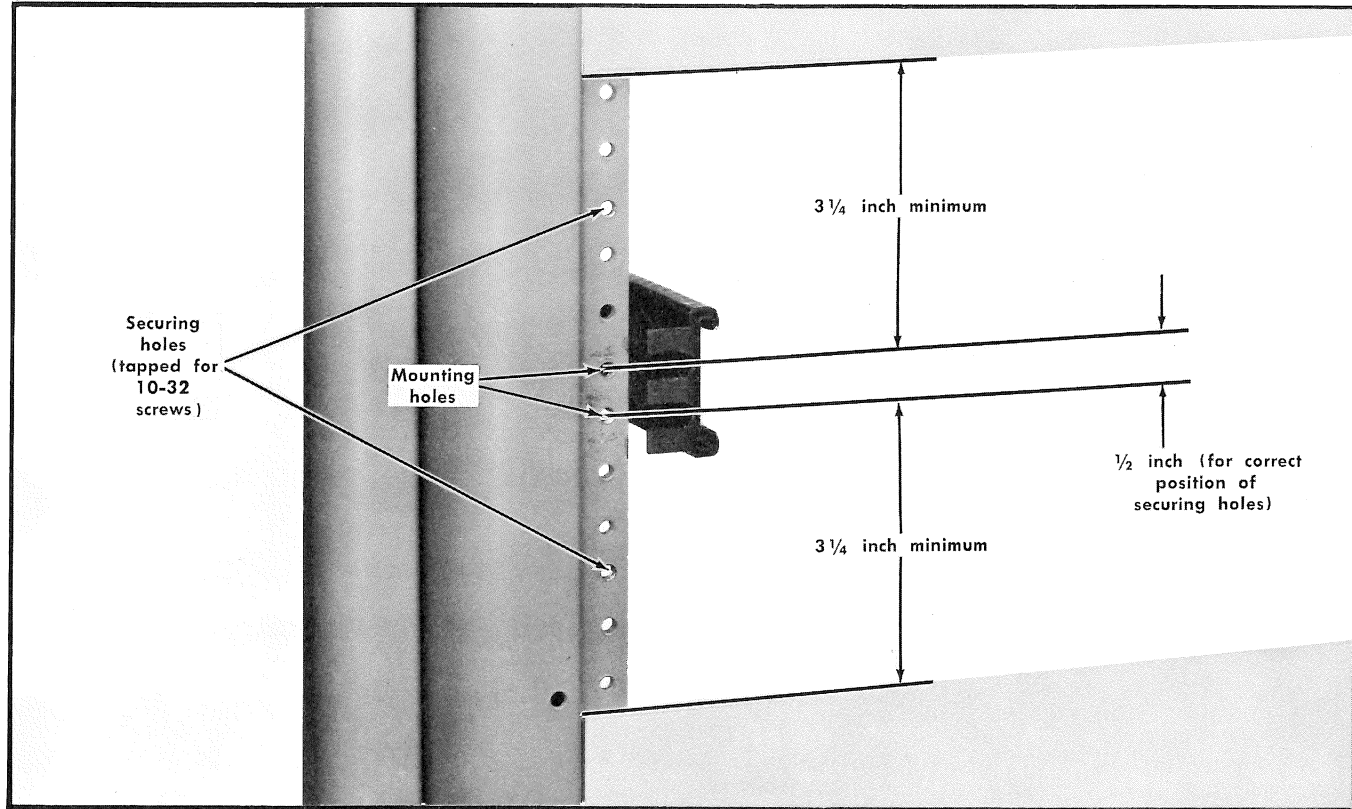

Fig. 9. Alignment adjustments for correct operation.
10. Adjust the alignment of the stationary sections according to the procedure outlined in Fig. 9. (If the rear alignment is changed, recheck the rear support pins for correct alignment.)